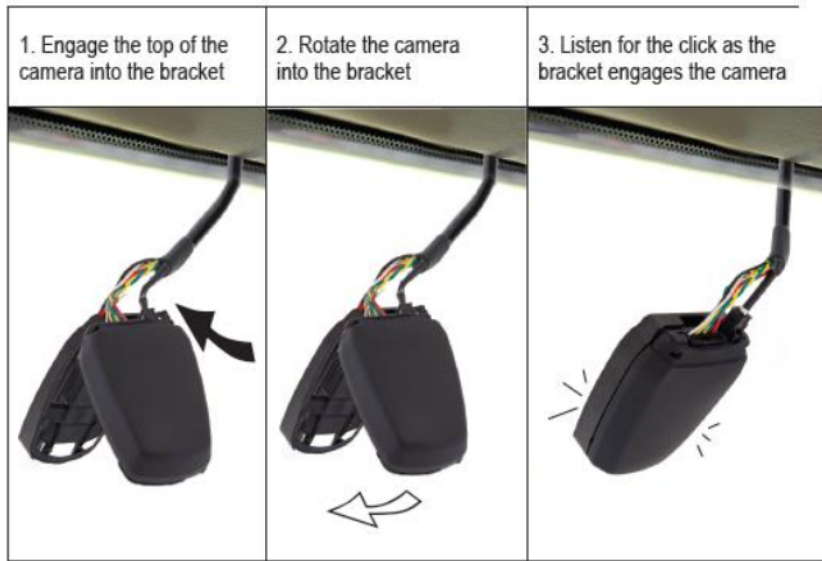

FIGURE 12 - CAMERA INSTALLATION
To install the camera into the bracket, *See Figure 12.*
4. **Double-check that the camera is fully engaged into the bracket, by verifying that the channel between them has the same gap all the way around. Pull gently on the camera to check that the tabs at the top and bottom are engaged and that there is no play. *See Figure 12.***